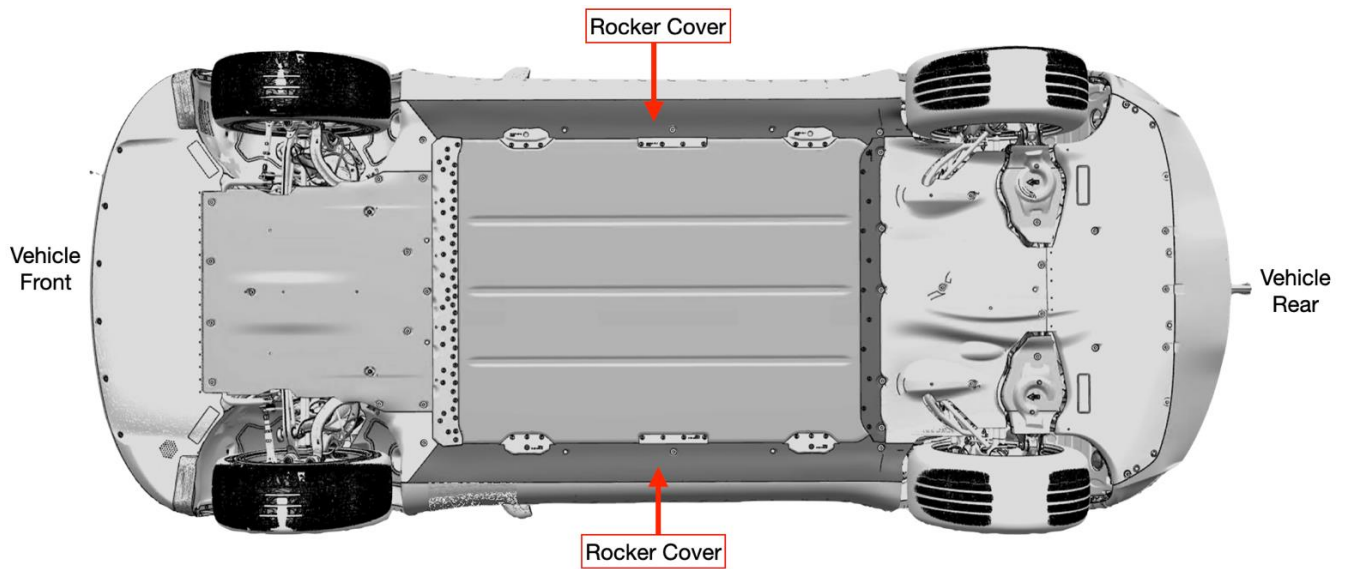

Figure 12 – Side rocker covers
1. Visually inspect the side rocker covers (Figure 12).